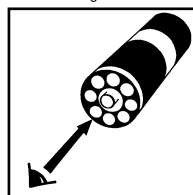

Figure 4
- a. Place the VACUette ampoule, flat end down into the center tube of the low range comparator. Direct the top of the comparator up toward a bright source of light while viewing from the bottom. Rotate the comparator until the color standard below the ampoule shows the closest match (fig 4).